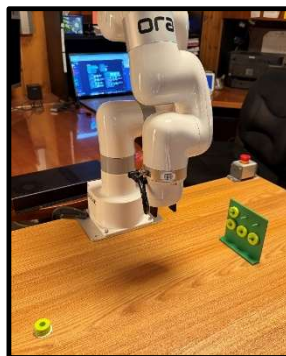

Figure 1
Figure 1 shows the setup for this challenge.
2. Make sure that the **Emergency Stop Button**, also shown in the middle-right side of Figure 1, is within easy reach. It might even be a good idea to have one student with his or her hand above the button when the program is started, in the event that it becomes necessary to instantly terminate all motion of ORA's arm and cancel any commands.